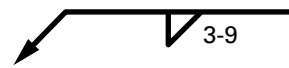

Figure 3
- In the welding symbol shown in *Review Question Figure 3*, the number 9 represents the weld \_\_\_\_\_.